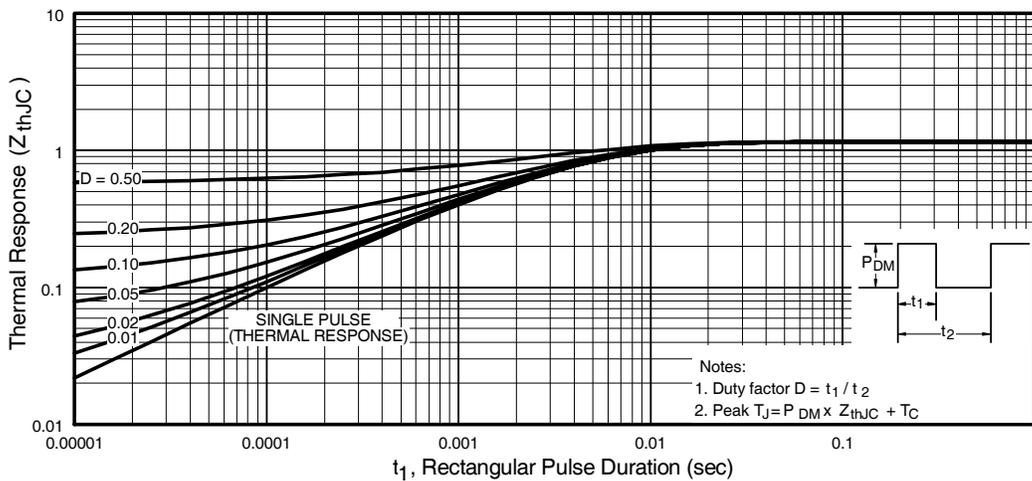

Fig 11. Maximum Effective Transient Thermal Impedance, Junction-to-Case
- ① Repetitive rating; pulse width limited by max. junction temperature. (See fig. 11)
- ② Starting T_J = 25°C, L = 1.5mH